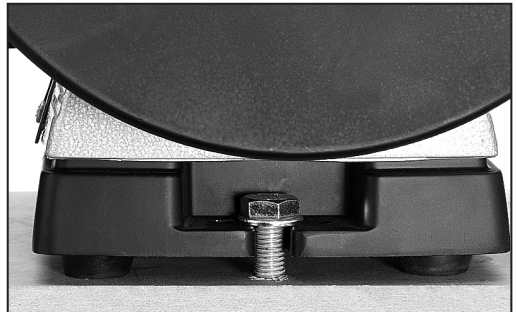

FIG. 5
6.5 REPLACING THE GRINDING WHEELS - FIG 5